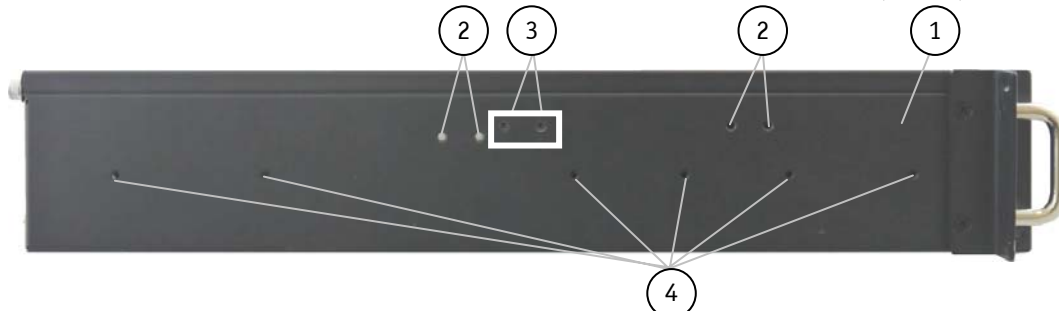

Fig. 27: KISS 2U V2 - side view
| 2 L1 and L2 : drives bays (stacked one above the other into a drive cage) | 9 Card hold down bracket (adjustable for long or short expansion cards; see Fig. 27, pos. 3) |
| 3 | Retaining bracket for the butterfly-backplane (not provided at system configuration with low profile cards) | 9 | Card hold down bracket (adjustable for long or short expansion cards; see Fig. 27, pos. 3) |
| 2 | L1 and L2 : drives bays (stacked one above the other into a drive cage) | 7 | Card hold down bracket (adjustable for long or short expansion cards; see Fig. 27, pos. 3) |